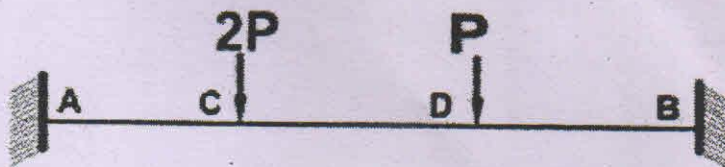

Figure 7
- (c) Calculate the collapse load for the beam shown in Figure 7. Assume the section to be of constant section, the full plastic moment being M_p . Take $AC = CD = DB = a$. (6)